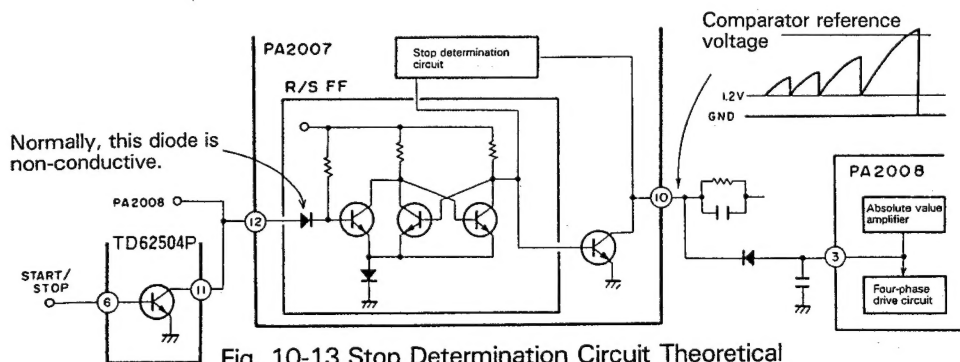

Fig. 10-13 Stop Determination Circuit Theoretical Circuit Diagram
2. The stop determination circuit senses whether the rotational speed is high or low by means of electrical charge/discharge from C and R which are connected to pin ⑩ (To/STOP) of IC PA2007. When the rotational speed drops below a certain point, it sets motor torque to "0". Fig. 10-13 is a theoretical circuit diagram.